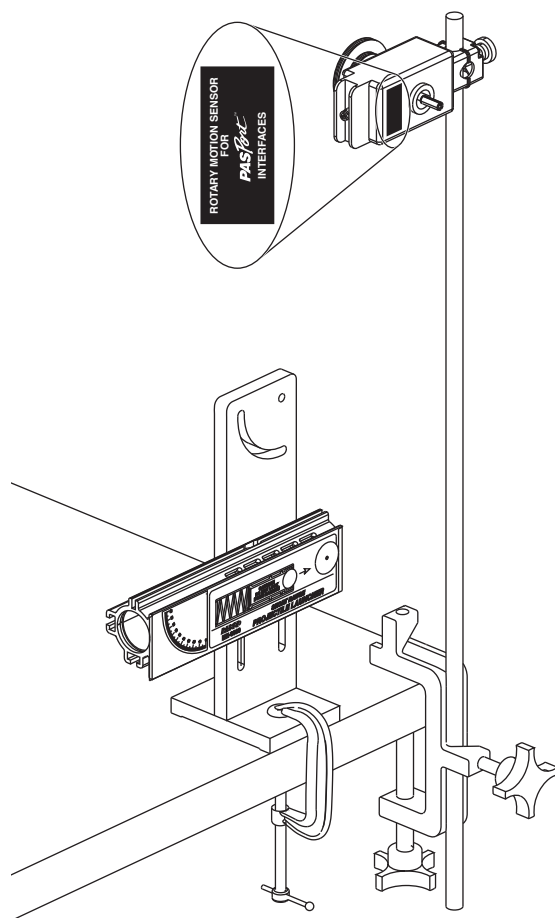

Figure 1: Launcher and RMS mounted on rod
1. Set up the launcher, C-clamp, table clamp, mounting rod, and RMS as shown in Figure 1. The exact position of the RMS is not important yet. Note that the side of the RMS *without* the model number on the label is facing you. (If the RMS is mounted the other way, it will measure negative displacement.)